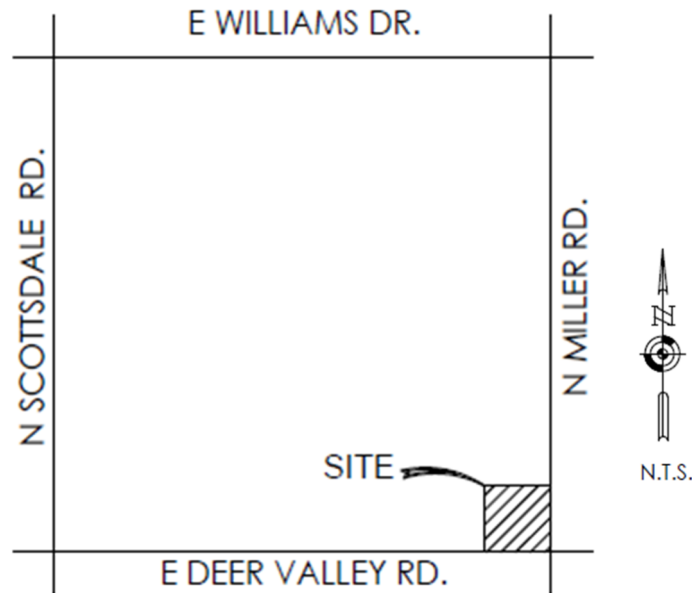

Figure 1 Vicinity Map
The proposed Deer Valley Townhomes development (Project) consists of attached townhomes split between three (3) buildings, 9 units on a one acre parcel. The proposed total disturbed area is 0.68 acres which include approximate 12,332 SF of building area. The lowest finished floor elevation of the site is 1779. The Site is defined by the parcel boundary for APN# 212-02-010E and is located at the northwest corner of Miller Road and Deer Valley Road in Scottsdale (see figure 1 below). The project zoning is R-3. The Site is currently undeveloped and the proposed development will be constructed all at once and will not be phased.